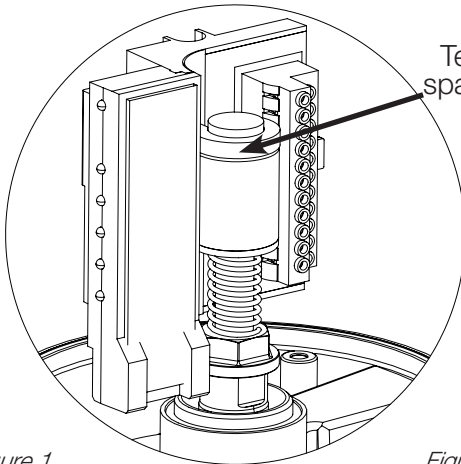

Figure 1
- I. Replace the gauge and reassemble the valve. Ensure valve is properly and completely assembled. (Figure 1)